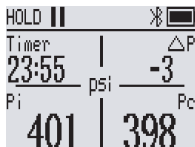

Figure 3 Pressure hold start interface
5.Start leak test : click after the device reaches  the pressure warning value to start the leak test , and the timer starts counting down (Figure 3) .